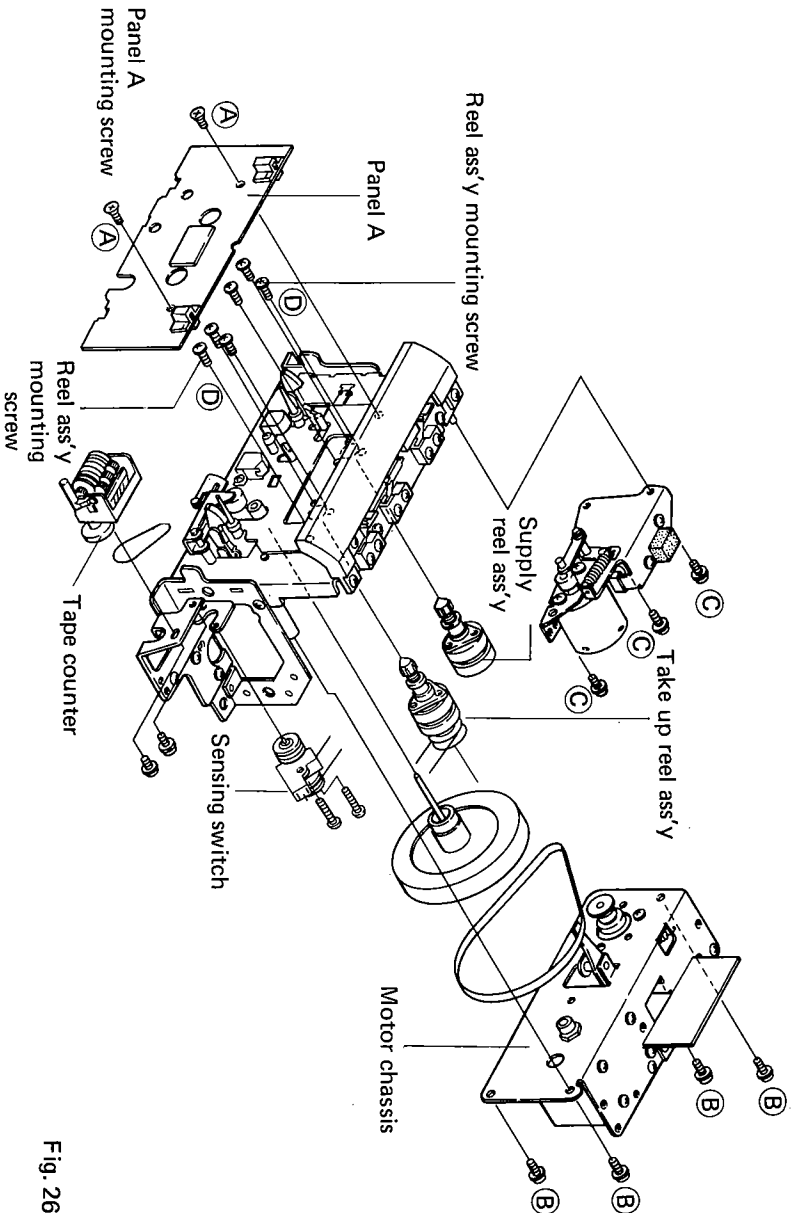

Fig. 26
10.4 REEL HUB TORQUE (Photo 5,6, Fig. 26)
To replace the take up and supply reel hubs, as shown in Fig. 26, take out screws A and remove panel A. Then remove screws B and C, and finally screws D.